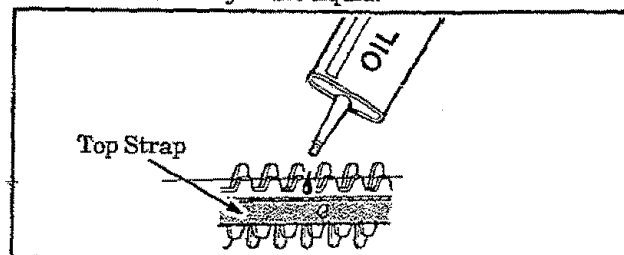

Figure 9
- d. Apply a light machine oil along the edge of the top strap as shown in Figure 9.